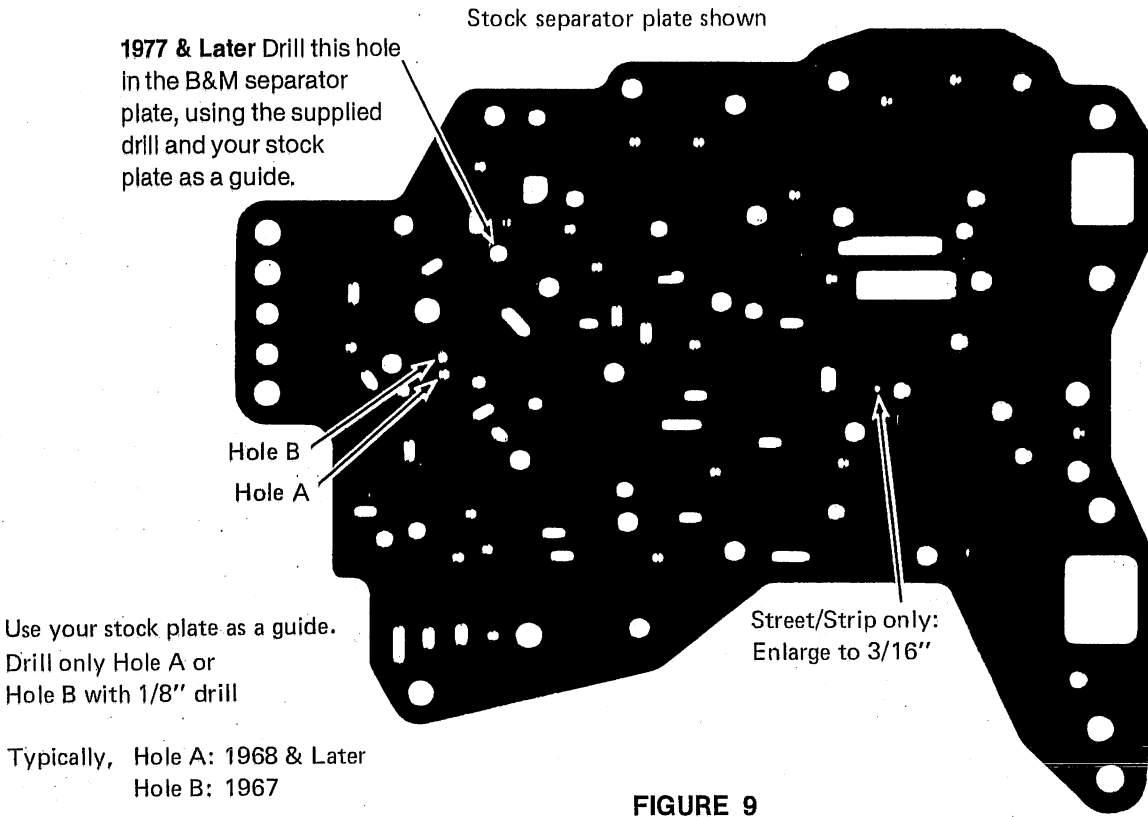

FIGURE 9
**STEP 13.** Compare your stock separator plate with the B&M plate for the position of hole location A or B. (See Fig. 9) Lay your stock plate on top of the B&M plate for a drill guide. Carefully drill an identical hole in the B&M plate in the same location A or B using the 1/8" drill supplied. All stock plates will have a hole at location A or B. Typically hole A: 1968 and later, hole B: 1967. Drill only one hole. Deburr the hole with a file, stone or sandpaper.
**1977 & Later:** On valve bodies equipped with a low reverse check ball, as shown in Figure 6, you must drill a hole in the B&M separator plate in the location shown in Figure 9. Use the 3/16" drill supplied in the kit. Align your stock plate with the B&M plate as a drill guide. Drill and then thoroughly deburr the hole. Proceed with Step 13.
drill out the hole in the B&M plate as shown in Figure 9. Deburr the hole with a file or sandpaper after drilling.